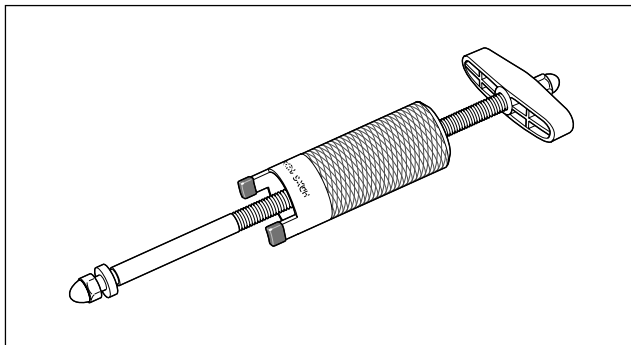

Figure 3-26. Piston Pin Remover (Part No. HD-42320A)
27. Remove the piston pin. If piston pin is difficult to remove, use PISTON PIN REMOVER (HD-42320A). See Figure 3-26. Proceed as follows: